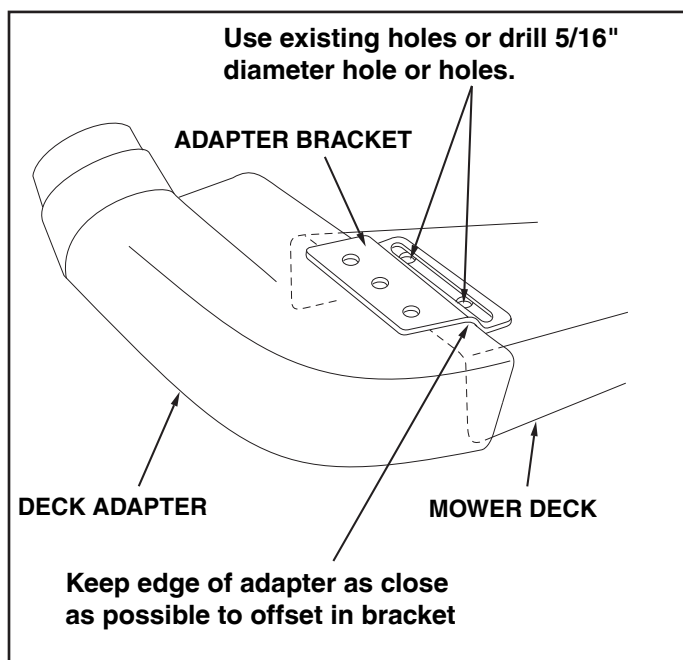

FIGURE 15
6. Holding the adapter bracket and the deck adapter together, position the deck adapter on the mower deck. Keeping the edge of deck adapter as close as possible to the offset in the adapter bracket, see if the slot in the adapter bracket can be aligned with one or two of the deflector holes in your mower deck's discharge opening. If the bracket can not be located correctly using existing holes, it will be necessary to drill one or two 5/16" diameter holes in the deck. See figure 15.